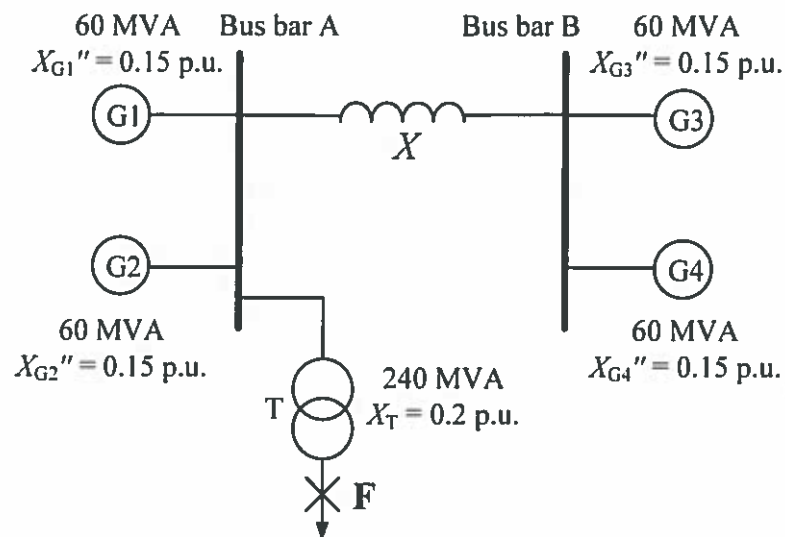

Figure 4.1: Single-line diagram of the generator arrangement for Question 4(b)
- c) Four identical 13 kV, 60 MVA three-phase generators, G1, G2, G3 and G4 are connected to a bus bar A and bus bar B as shown in Figure 4.1. The sub-transient reactance of each generator is 0.15 p.u. (with respect to their respective base). Bus bar A is connected to bus bar B through a reactor X . A feeder is supplied from bus bar A through a 240 MVA step-up transformer, T with 0.2 p.u. (with respect to its own base) leakage reactance. Choose 60 MVA base for the calculations. Neglect pre-fault loading and assume zero fault impedance.